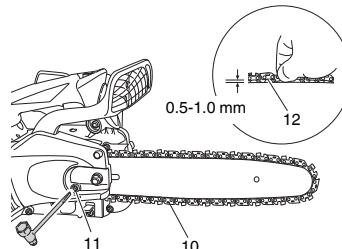

Fig. 6
- Raise the bar end, and tighten the saw chain (10) by turning the tension adjustment bolt (11) clockwise. To check proper tension, lightly lift up the center of chain and there should be about 0.5 – 1.0 mm clearance between bar and edge of drive link (12). (**Fig. 6, 7**)